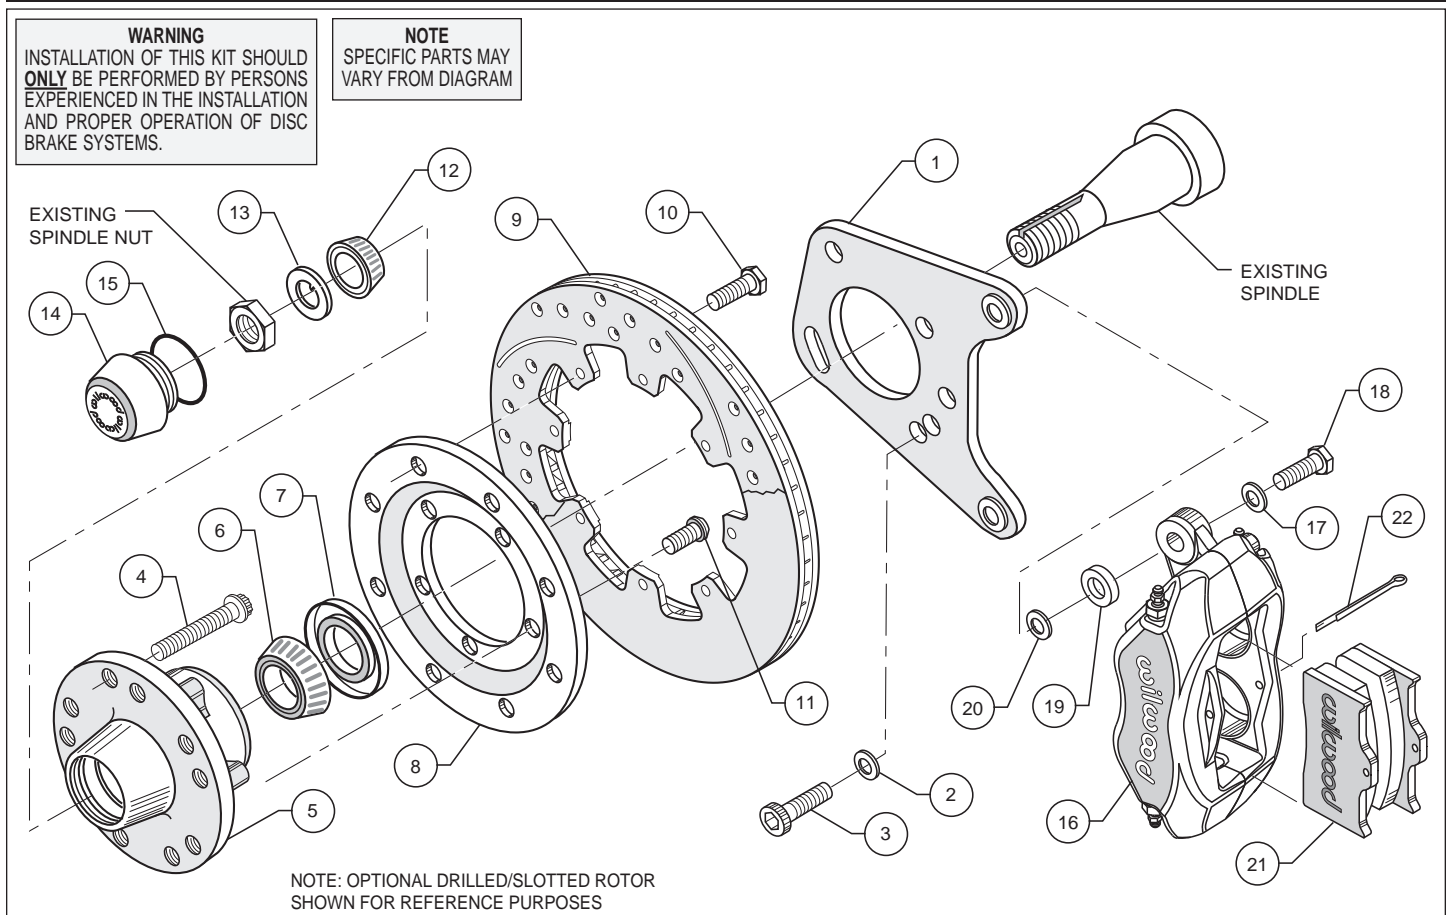
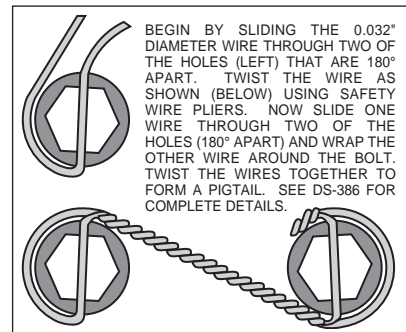
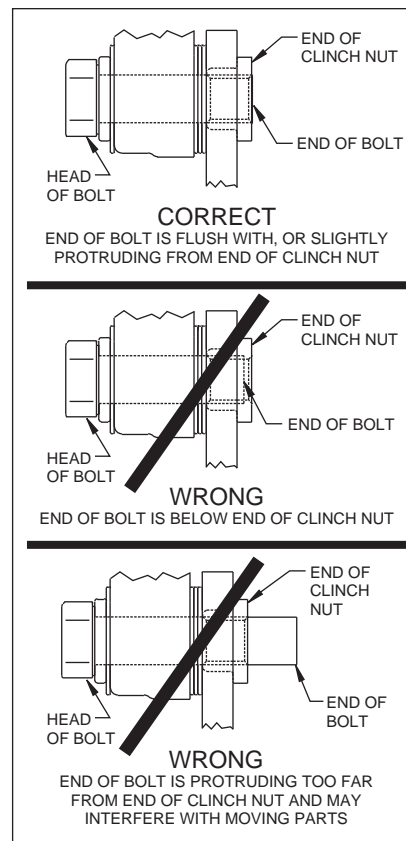

Figure 1. Typical Installation Configuration
Figure 3. Safety Wire Diagram
Figure 4.
•Position the caliper mounting bracket (1) on the spindle. **NOTE:** Be sure the heads of the caliper bracket (1) insert nuts are facing outward toward the wheel. Place one washer (2) on each of the three caliper bracket bolts (3). Mount bracket to the dust plate face of the spindle and align the three 3/8-16 holes in the spindle with the corresponding holes in the bracket (1). Apply red *Loctite*® 271 to all three bolt threads (3) and install. Torque bolts (3) to 22 ft-lb.
•Install wheel studs (4) into the hub (5). Torque to 77 ft-lb. **NOTE:** There are two lug patterns of five holes each in the hub (5 x 4.50 and 5 x 4.75). Make sure of the correct hole pattern for the wheel application before installing the studs into the hub.
•Attach rotor adapter plate (8) to rotor (9) using bolts (10). **NOTE:** Dished side of adapter plate (8) should face hub (5). The mounting tabs on the rotor (9) should face toward the hub as well and line up with the holes on the adapter plate (8), Figure 1. Using an alternating sequence, apply red *Loctite*® 271 to the threads and torque bolts to 25 ft-lb. For an added measure of security, the bolts may be safety wired using standard 0.032 inch diameter stainless steel safety wire as shown in Figure 3. Please refer to Wilwood's data sheet DS-386 (available at [www.wilwood.com/Pdf/DataSheets/ds386.pdf](http://www.wilwood.com/Pdf/DataSheets/ds386.pdf)) for complete safety wire installation instructions.
•Mount the adapter/rotor assembly (8/9) to the hub (5) using bolts (11), as shown in Figure 1. Using an alternating sequence, apply red *Loctite*® 271 to the threads, and torque to 45 ft-lb.
•Pack the large inner bearing cone (6) with high temperature disc brake bearing grease (available from your local auto parts store) and install into the backside of the hub (5).
•Install the grease seal (7) by pressing into the backside of the hub (5).
•Pack the small outer bearing cone (12) with high temperature disc brake bearing grease and install into front of hub (5). Slide the hub assembly (5, 6, 7 and 9) with outer bearing cone (12) onto the spindle. Secure using spindle washer (13), stock adjusting nut and nut locking device. Adjust bearings per Original Equipment Manufacturer (OEM) specifications.
•Install the o-ring (15) and the dust cap (14) onto the hub (5). Friction created by the o-ring (15) on the dust cap (14) keeps it from unscrewing on its own.
•**NOTE:** Please reference the caution statement at the beginning of the assembly instructions. Mount the caliper (16) onto the caliper bracket (1) using washers (17), bolts (18) and caliper spacer (19). Finger tighten. View the rotor (9) through the top opening of the caliper (16). The rotor (9) should be aligned in the center of the caliper (16). If not, adjust the caliper (16) by using 0.032 inch thick shims (20) placed between the caliper mounting bracket (1) and the caliper spacer (19). Finger tighten and recheck alignment. Add as many shim washers (20) as necessary to achieve the correct alignment. **NOTE:** The end of the bolt must be flush with or slightly protruding from the head of the clinch nut. See Figure 4. Place spare shims (20) between washer and caliper mounting ear to achieve the proper mounting fastener configuration. Always use the same amount of shims on both the top and bottom caliper mounting bolts (18). Apply red *Loctite*® 271 to bolt threads (18) and torque to 40 ft-lb. Caliper mount bolts may be safety wired for additional security.
•Install the disc brake pads (21) and secure using cotter pin (22).